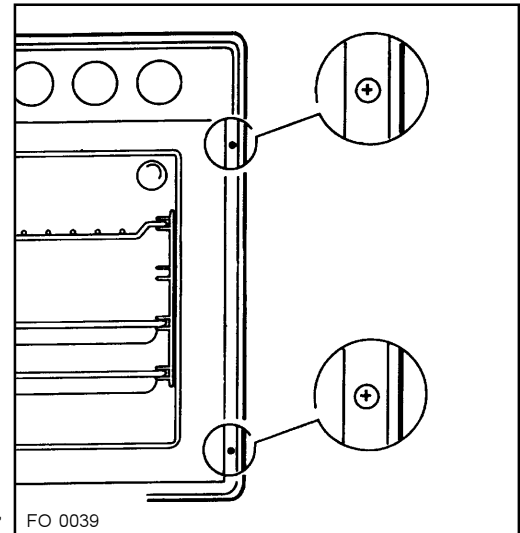

Fig. 17 FO 0039
- Open the oven door and secure the oven to the kitchen cabinet with four wood screws, which fit the holes provided in the oven frame (Fig.17).